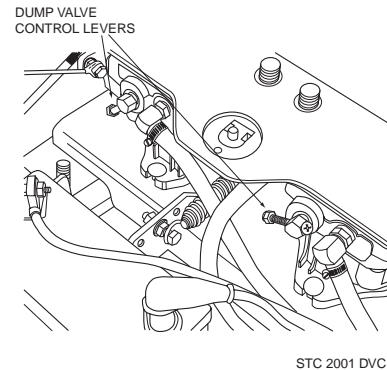

Figure 4-2 Dump Valve Control
11. **Dump Valve Control Levers (Figure 4-2).** Located on the hydraulic pumps, used to "free-wheel" the mower. Rotating the levers clockwise until they stop allows the unit to move under hydraulic power. The levers must be in this position and torqued to 10ft/lbs for proper operation of the mower drive system. Rotating the levers counter-clockwise, 1-2 turns, allows the mower to be moved by hand (free-wheeling).
To “free-wheel” or move the mower around without the engine running, place the dump valve levers in the FREE-WHEEL position (Figure 4-2, page 13). Disengage the parking brake and move the mower by hand. The dump valve levers must be returned to the DRIVE position and torqued to 7-10 ft/lbs to drive the mower.